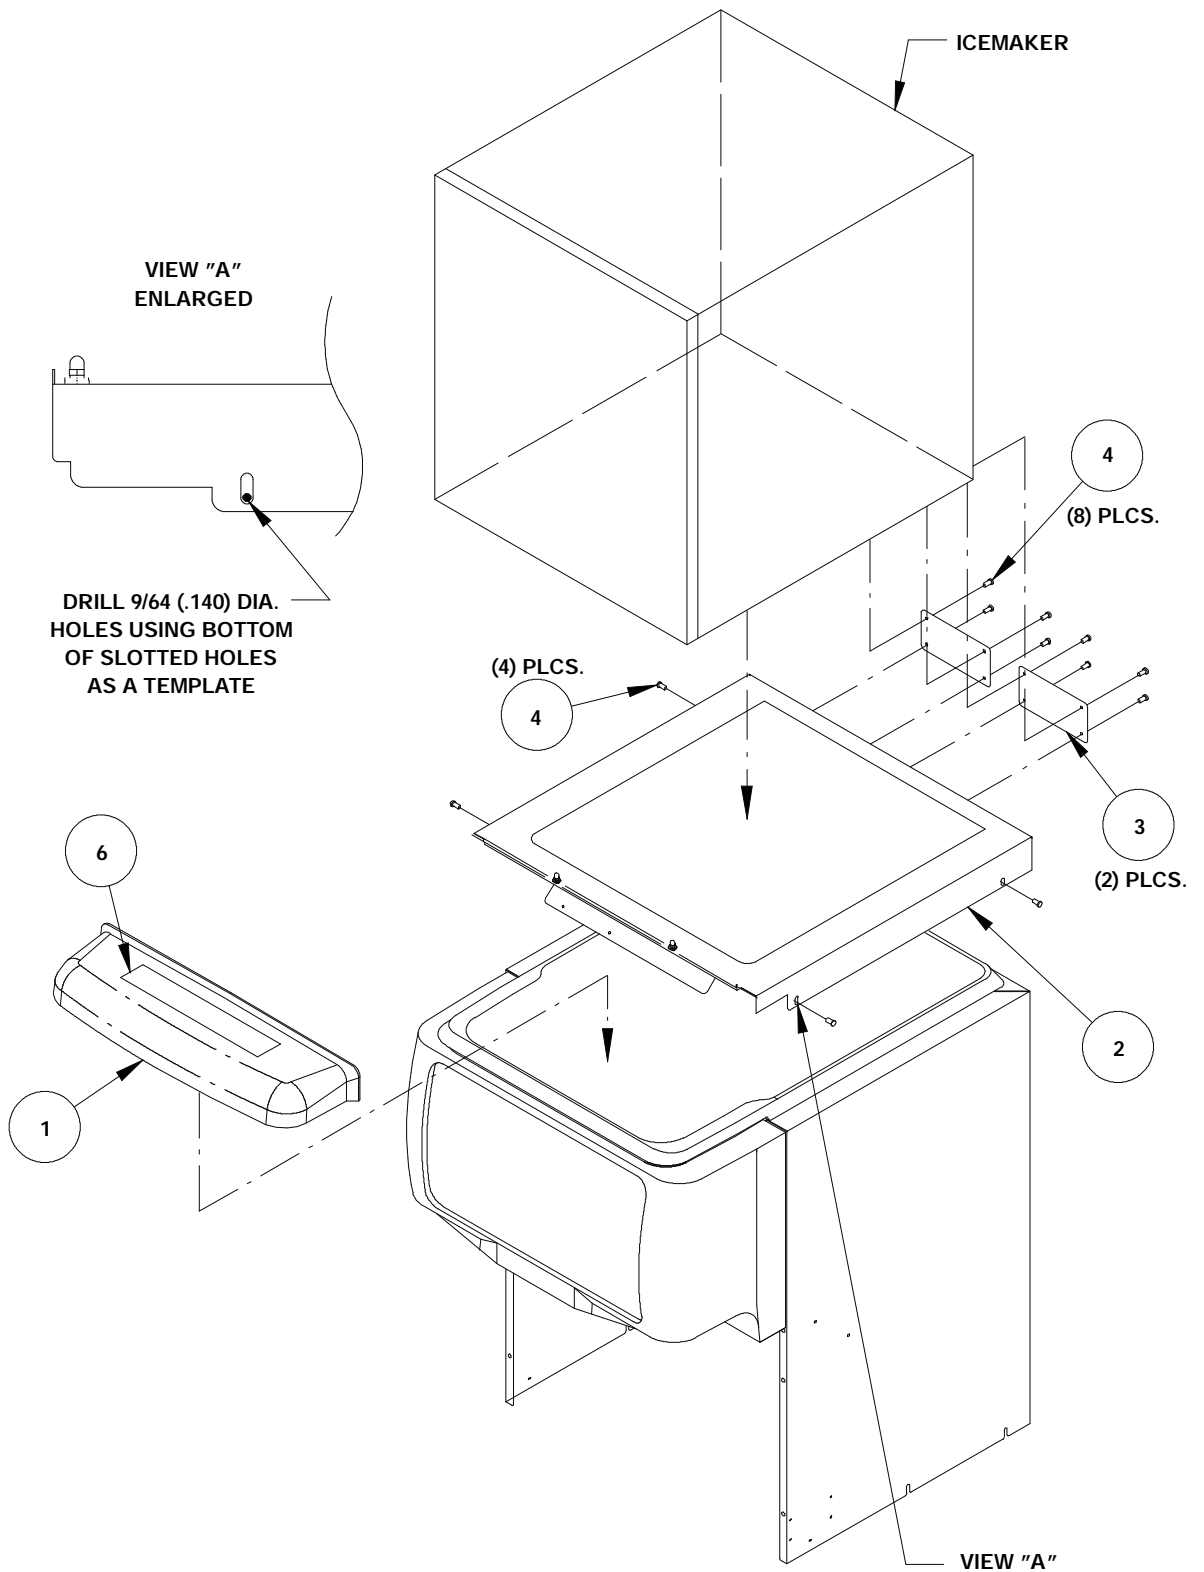

FIGURE 1. DISPENSER ASSEMBLY
3. Place two (2) sealing cap washers (item 9) over studs and two (2) NYLON WASHERS (item11), then fasten in place with two (2) ACORN NUTS (item 8).
5. Using the slotted holes in the lid as a template, drill four (4) .140-in. diameter (9/64-in.) holes at the bottom of the slots (see detail A of Figure 1). Use extreme care not to drill into the hopper. Fasten the lid to the dispenser with four (4) #8 sheet metal screws, two on each side.
8. Mount BIN STAT KIT (item 17) as instructed except for the bin stat capillary tube mounting.
9. Pull 32-inches of capillary tube out of bottom of the ice maker. Slit and place VINYL TUBING (item 16) over the capillary tube leaving 6-inches of bare capillary tube exposed between capillary "S" bend and vinyl tubing.
10. Assemble two (2) NYLON CLAMPS (item 15) to the back side of the ICE BAFFLE (item 10) with two (2) SCREWS (item 14) and ACORN NUTS (item 8). *Do not overtighten.*